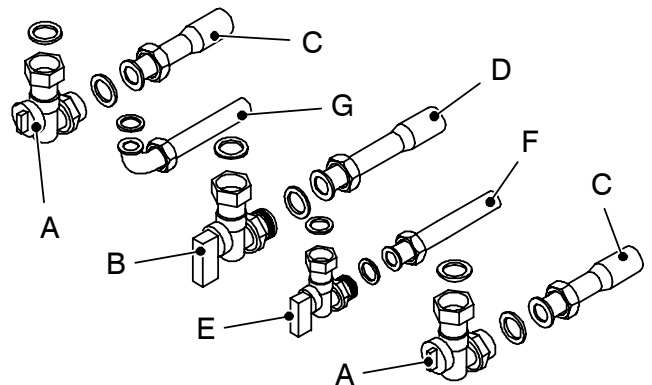

Fig. 6.3
- 4 Fix the c.h. valves A and gas cock B (3/4") to the boiler using the 3/4" gaskets (Fig. 6.3)